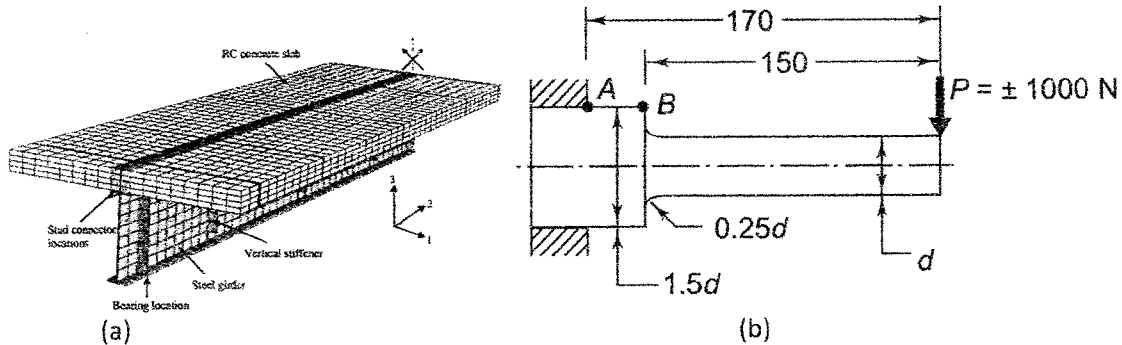

Fig.2
5. Girder bridges are the simplest bridge type in structure and consist of steel beams shaped to an I-section, called a plate girder bridge. These steel beams are made of hot rolled steel (20C8) in form of rods and placed horizontally which act as a cantilever beam as shown in Fig.2(a). This cantilever beam ($S_{ut} = 540 \text{ N/mm}^2$) is subjected to a completely reversed load of 1000 N as shown in Fig.2(b). The notch sensitivity factor q at the fillet can be taken as 0.85 and the expected reliability is 90%. Determine the diameter of the beam for a life of 10000 cycles.